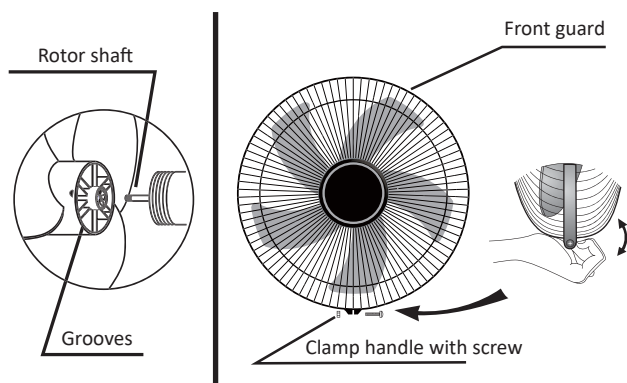

Fig. 3
3. Align the front guard with the guard clamp with the back guard and firmly push until it locks with the back guard. Make sure that the handle of the clamp is positioned on the lower portion of the guard. (Fig. 3)